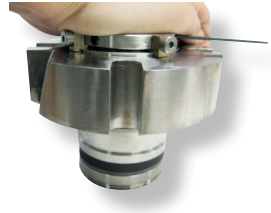

Figure 27
6.21 Compress the collar to be even with the end of the sleeve assembly. This will also compress the gland and inner gland simultaneously. While holding the collar in compression, tighten the quarter-dog set screws [57.1] into the holes in the sleeve until snug. If the seal does not contain quarter-dog set screws then tighten the set screws [57] into the sleeve [1]. See Figure 27.